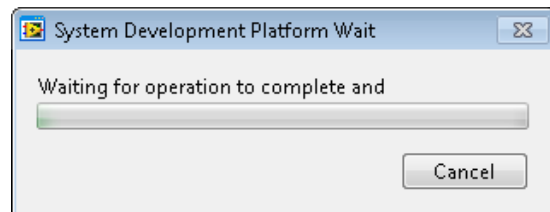

Figure 17. Software Connects to SDP-H1 Board
4. The software then connects to the board and displays the message shown in Figure 17.